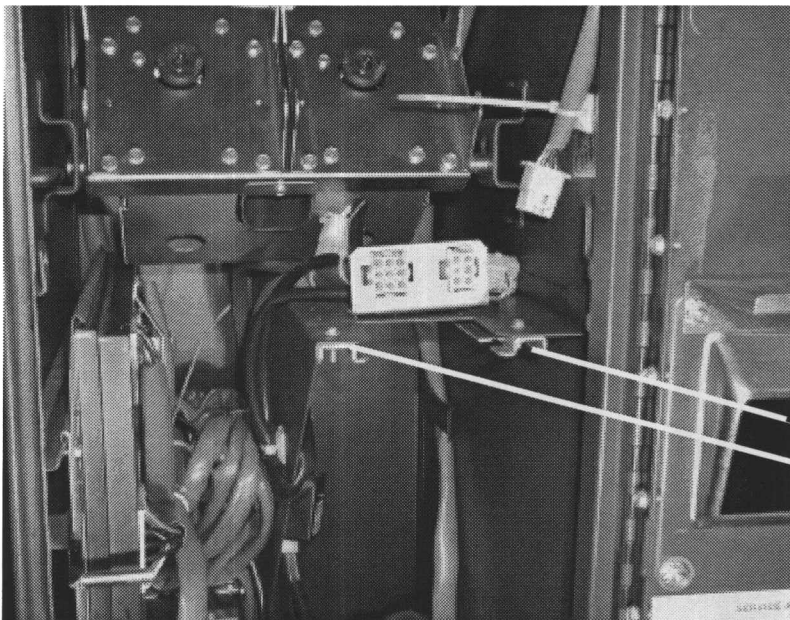

Figure 12
- D. Mount the Mars validator upside down to the slider bracket included with the kit (Figure 11). This bracket simply slides on the tracks where the transport was located before being removed in Step 1C (Figure 12).